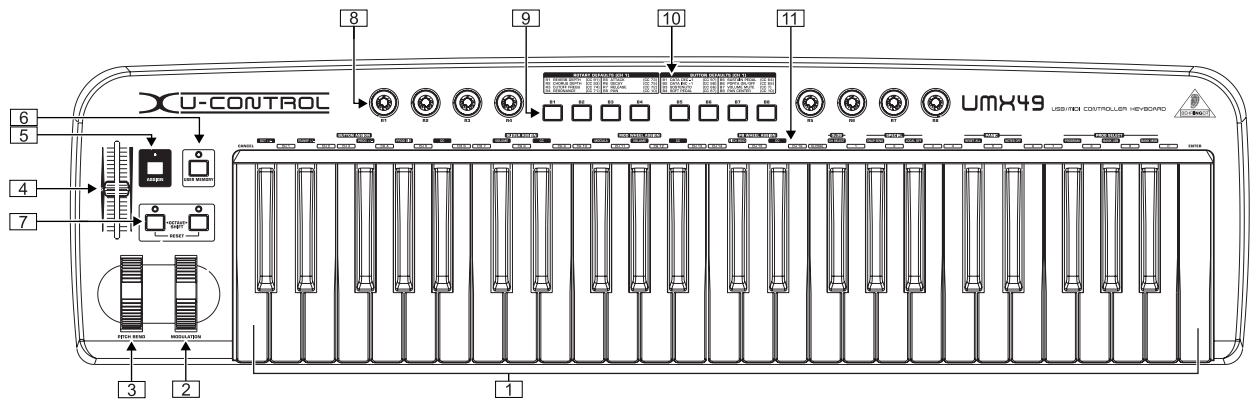

Fig. 3.1: Top view of the UMX
- ▲ You use the preset controller configuration set in the factory (see Fig. 3.1). In this case, you only need to make the assignments on the receiving device.